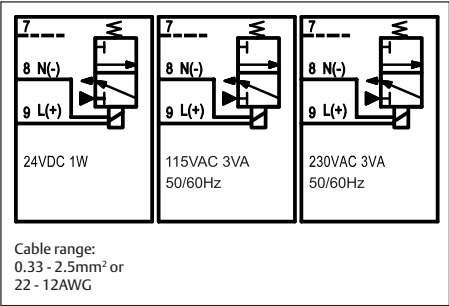

Fig. 4.5 Default Pilot valve wiring connections
4. For normal operation, make the electrical connections as shown in figure 4.5.